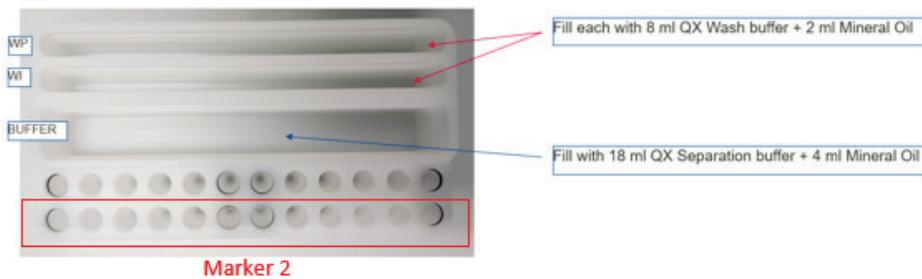

Figure 1. Buffer tray setup
3. Place the 12-tube strip into position Marker 2 of the buffer tray (see Figure 1).
3. Place the 12-tube strip into position Marker 1 of the buffer tray (see Figure 1).